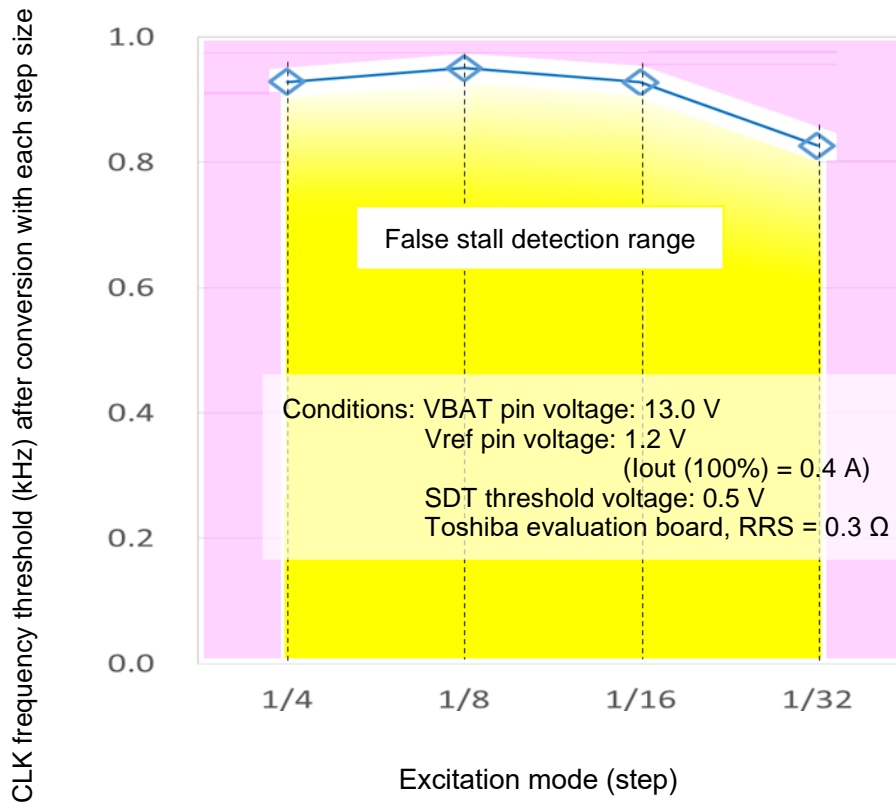

Figure 16. Excitation mode vs. CLK frequency threshold (for reference)
- As shown in Figure 16, the result is as follows: